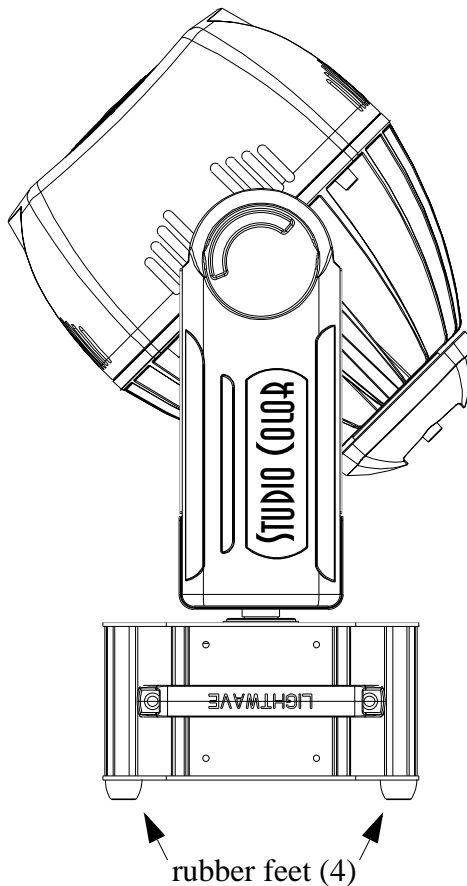

Figure 1.7. Floor Installation
1. Check to ensure that the rubber feet are installed on the base of the fixture and place it on a flat surface. Refer to Figure 1.7.